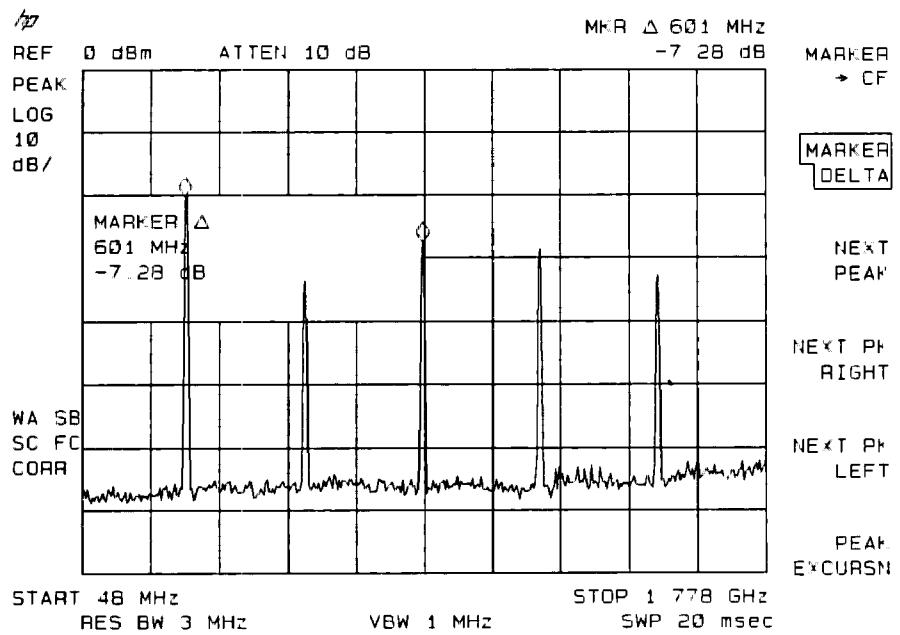

Figure 6-13. Using the Delta Meas Function
5. The **DELTA MEAS** softkey also finds and displays the frequency and amplitude difference between the two highest-amplitude signals. To use this automatic function, first remove the local oscillator (LO) signal from the display by pressing **FREQUENCY**, **START FREQ**, and turning the knob until the LO signal at 0 Hz is off the screen. Press **MEAS/USER**, **MORE 1 of 2**, **DELTA MEAS**. See Figure 6-13.